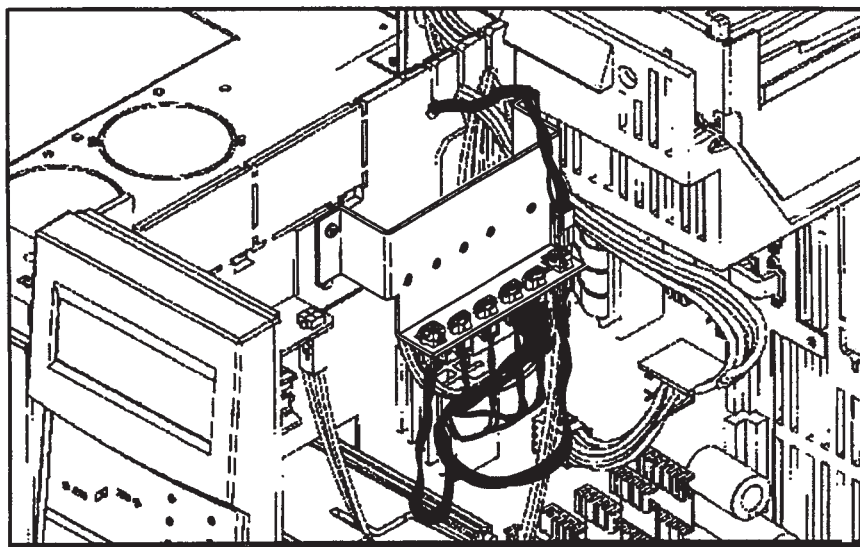

Figure 3.10. Valve Heater Driver
10. If both detector ports are occupied by existing detectors, plug the heater cable assembly to the valve heater driver for the GC. If the valve heater driver is installed on the GC, plug the heater cable assembly to either the P1 or P2 position. (Figure 3.10). If the valve cable assembly and bracket are not already installed on the GC, order them separately. Both the valve driver block (PN 280818; Agilent PN G1580-00070) and the valve driver wire harness (PN 280834; Agilent PN G1530-60660) are needed. See the *Agilent 6890 GC Service Manual* for instructions on installing these items.